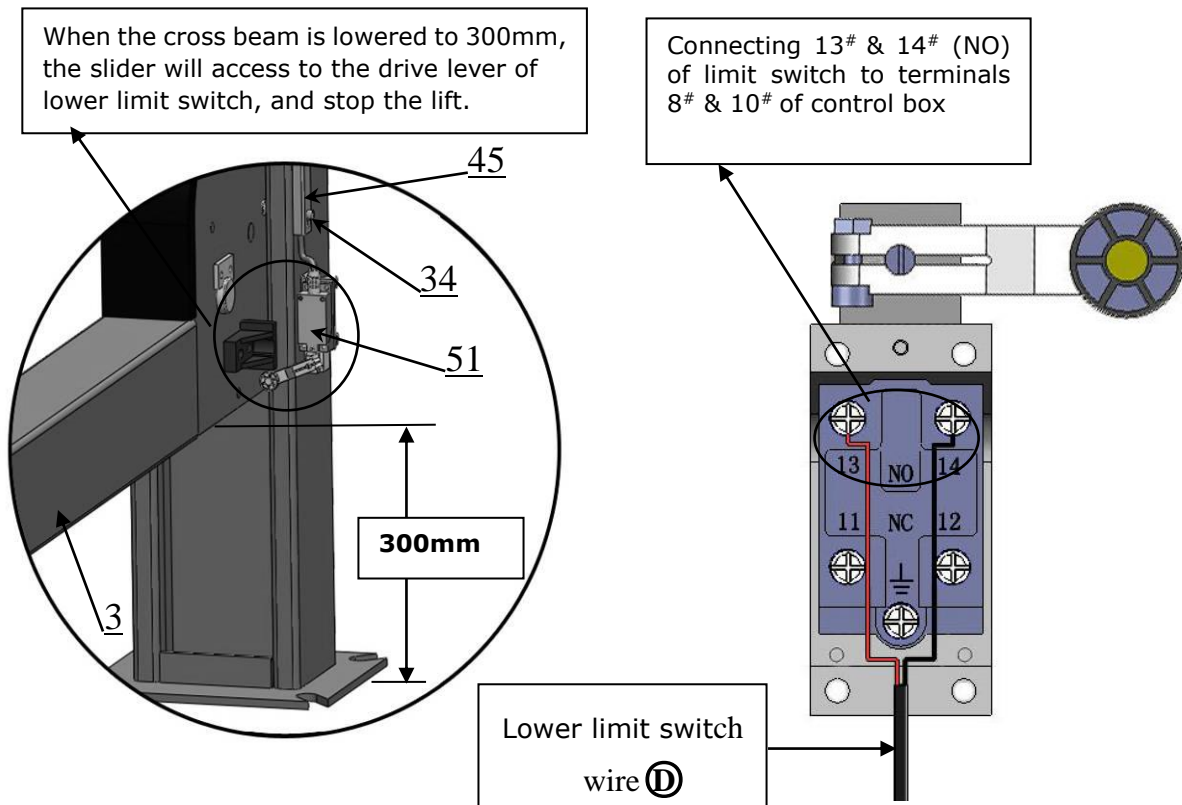

Fig. 31
2. Install lower alarm limit switch (See Fig. 31)